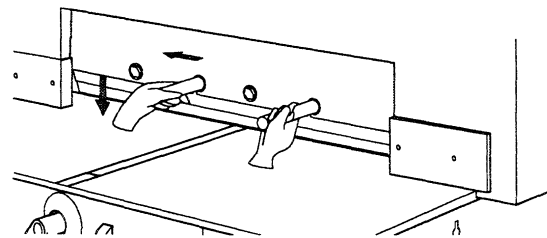

Fig. 4-4
- Grasping both knife change handles, carefully move knife first to left and then downward. (Fig. 4-4)